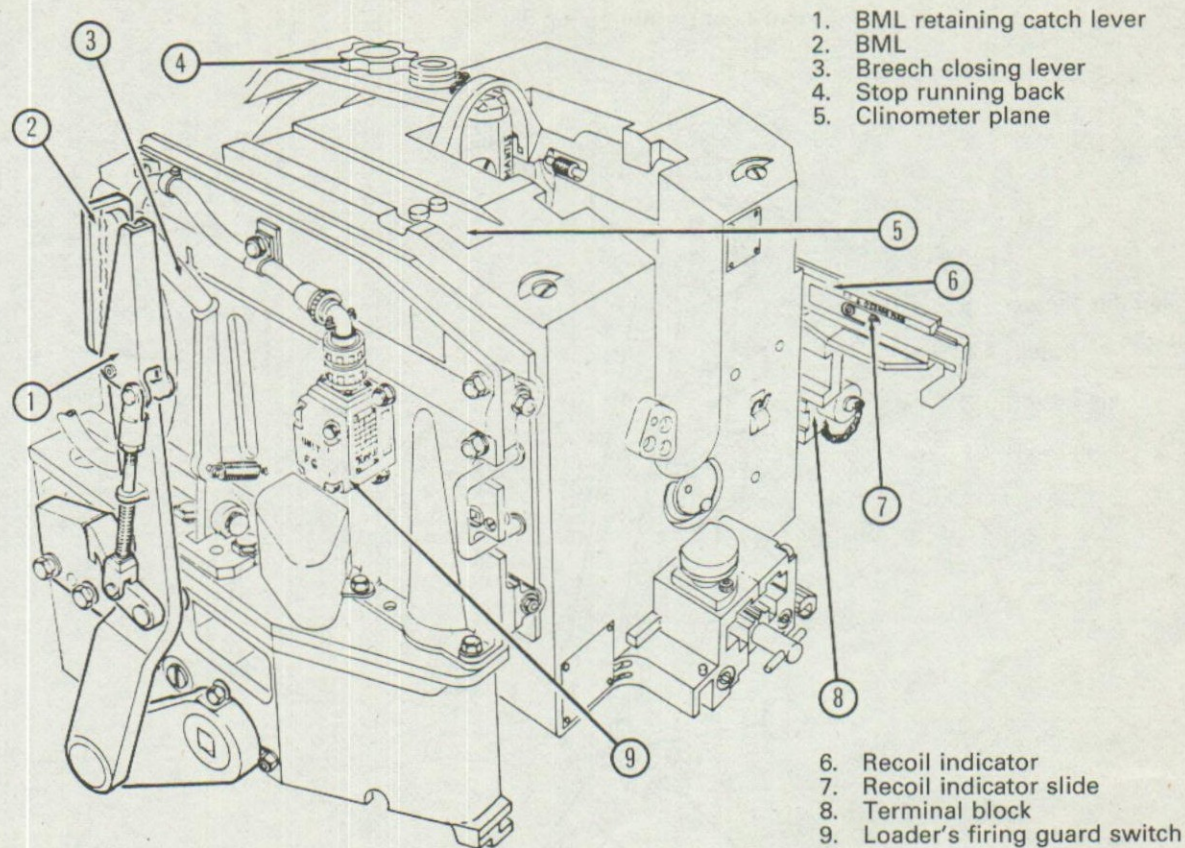

Fig 3 - 120mm Breech ring with BML fitted
- a. Ensure that the stop, running back, is fitted (see Fig 3).
- a. Ensure the stop, running back, is fitted (see Fig 3).
To open the breech (using the breech mechanism lever (BML)) (See Fig 3)
5. Operate the breech closing lever to the left of the breech ring, by pulling the handle to the left (see Fig 3).